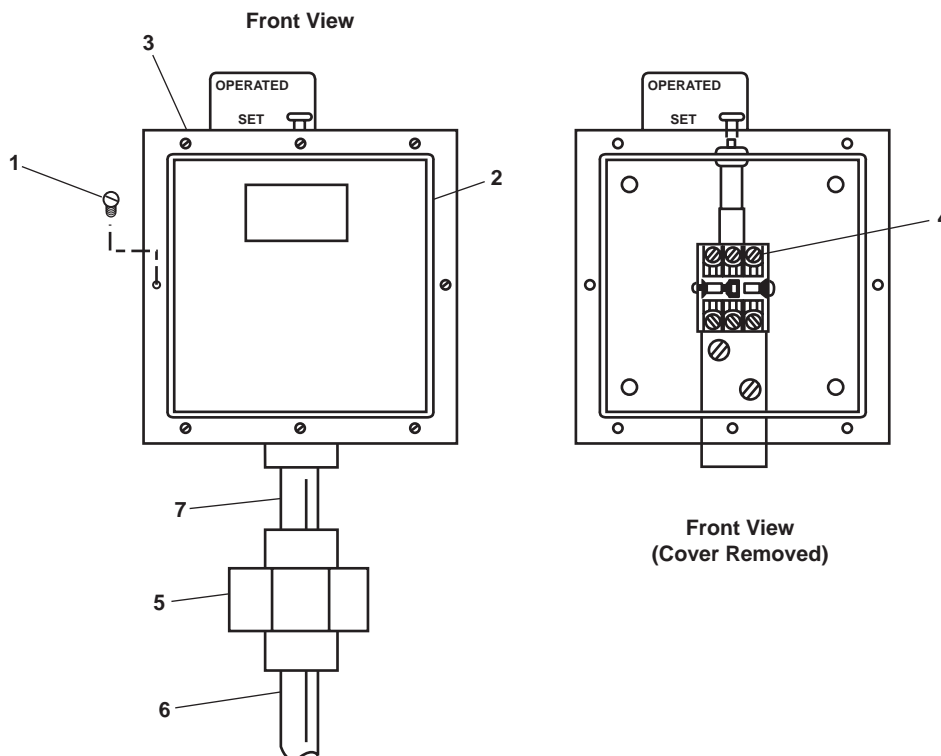

Figure 5. Pressure Operated Switch
1. Remove the eight screws (figure 5, item 1) from the cover (figure 5, item 2) of the pressure operated switch (figure 5, item 3).
2. Using a multimeter, check for voltage at the terminal board (figure 5, item 4) to ensure that electrical circuits are deenergized. If voltage is present, ensure that the proper circuit breakers are set to OFF, locked out, and tagged out (FM 55-502). If no voltage is present, continue with this procedure.
3. Label and disconnect the wiring from the terminal board (figure 5, item 4).
4. Disconnect the union (figure 5, item 5) at the bottom of the pressure operated switch (figure 5, item 3).
5. Remove the pressure operated switch assembly from the pipe (figure 5, item 6).
7. Remove the pipe fittings (figure 5, item 7) from the switch (figure 5, item 3).
1. Apply antiseizing tape on the male pipe threads of the pipe fittings (figure 5, item 7).
2. Install the pipe fittings (figure 5, item 7) into the pressure operated switch (figure 5, item 3).
3. Connect the new pressure operated switch (figure 5, item 3) to the piping (figure 5, item 6) at the union (figure 5, item 5).
4. Tighten the union (figure 5, item 5) using the two wrench method.
5. Connect the electrical wiring to the terminal board (figure 5, item 4) using the labels from step 3 of Removal as a guide. Remove the labels.
6. Install the eight screws (figure 5, item 1) to secure the cover (figure 5, item 2) to the pressure operated switch (figure 5, item 3).
Gasket, Cover (Item 4, Figure 5, WP 0048 00)